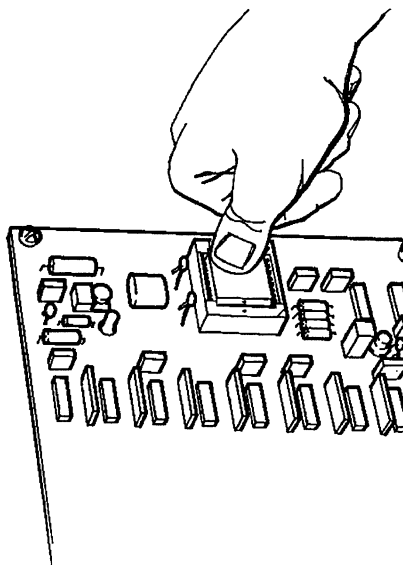

Figure 9 Press Firmware in Socket
- b. Press IC into place. See Fig. 9. When properly installed, IC will be flush with the top of socket.